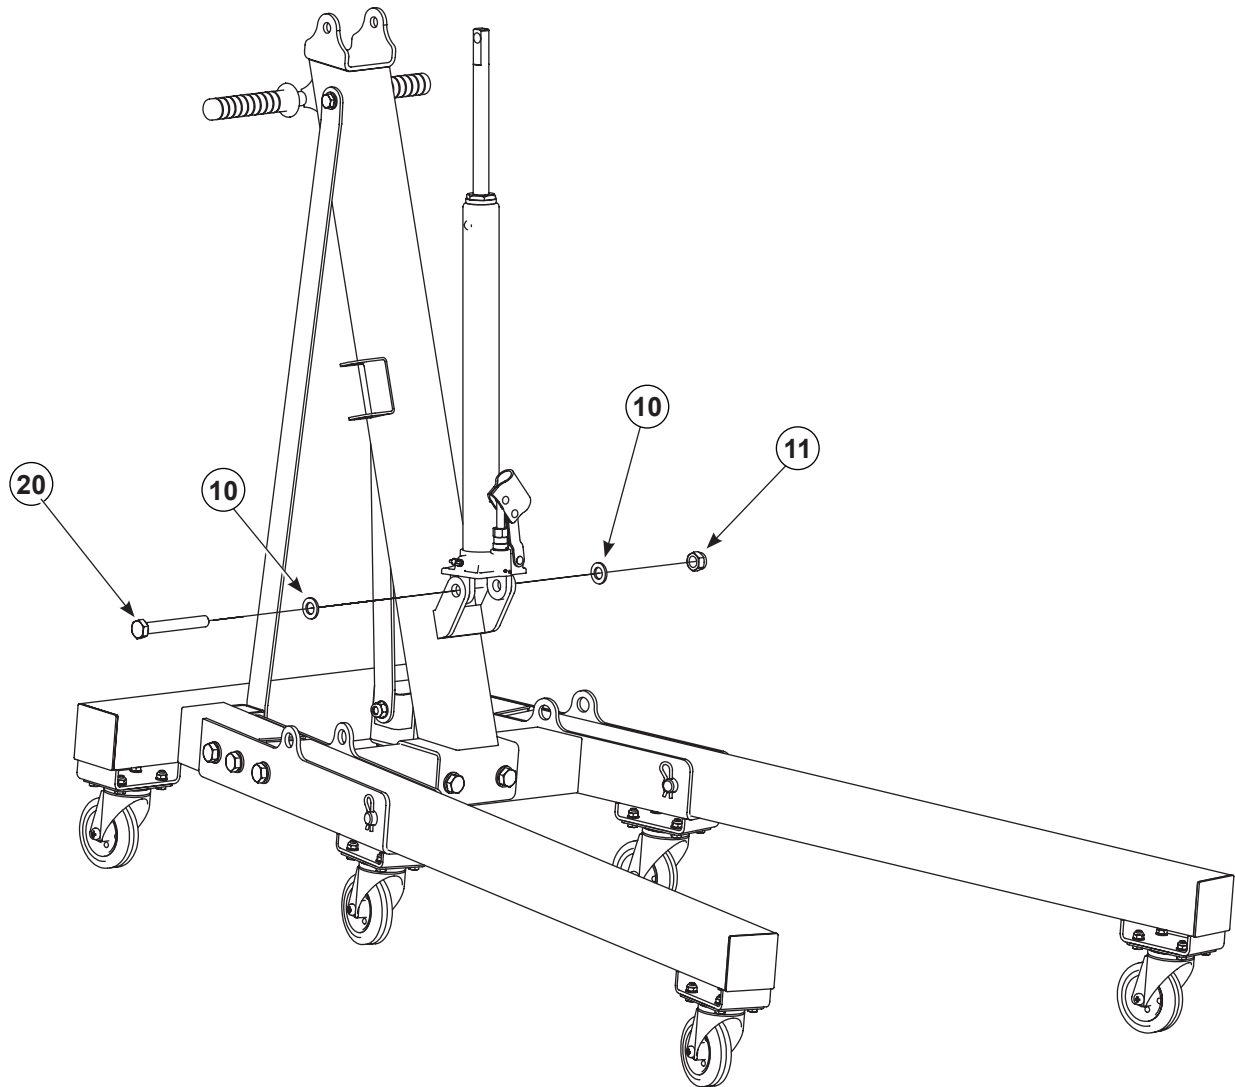

Figure 13 Ram Installation (2 of 2)
2. See Figure 13. Install lock washer (10) and bolt (20) to mount ram to boom support post.
3. Utilizing a wrench or equivalent tool, tighten bolt (20) and nut (11) to 118.0 ft-lb (160 N•m).